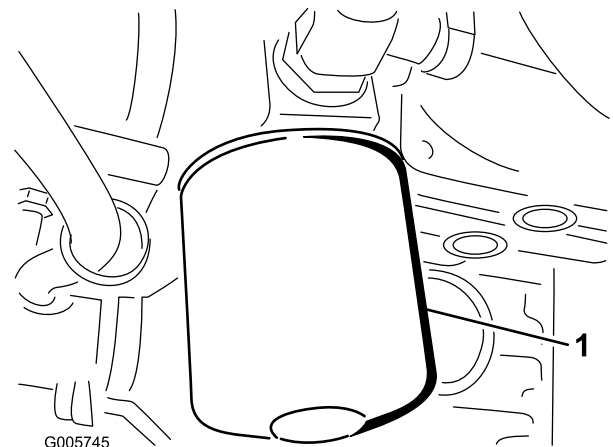

Figure 74
1. Clean area where hydraulic fluid filter mounts. Remove filter from base (Figure 74) and clean filter mounting surface.